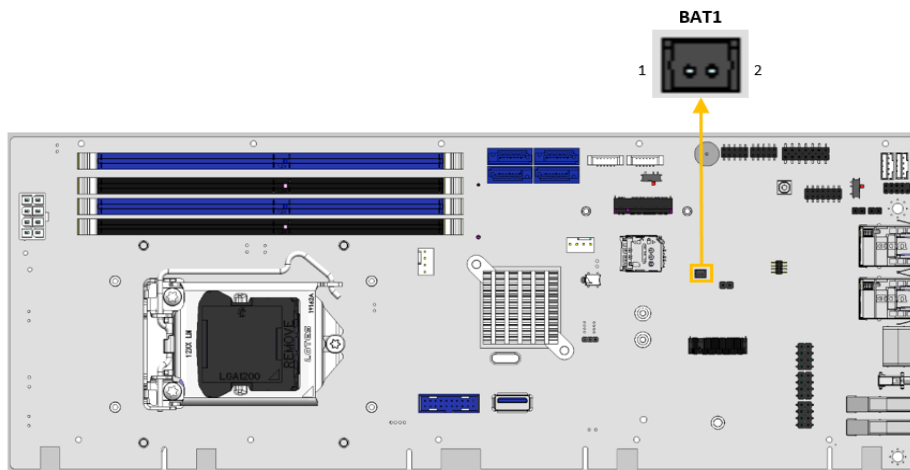

Figure 3-3: Battery Connector Location
- CN Location:** See Figure 3-3